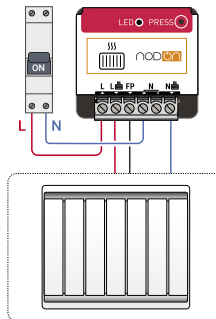

Figure 1
- 3 Cable the module according to diagram figure 1.